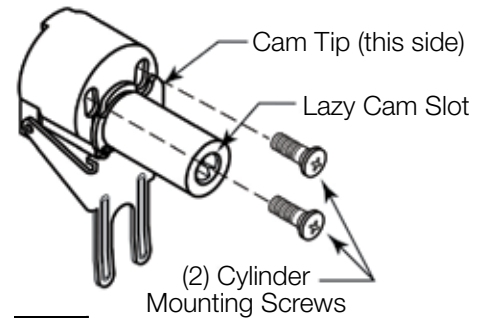
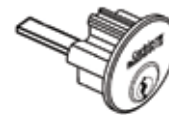

Figure 2
Figure 3
1. Follow 955 Series trim installation instructions. Substitute cylinder housing assembly with Double Cylinder Trim Housing Assembly supplied with device. (Figure 2) Continue with trim mounting instructions.
2. Follow ED5200 (A) mounting instructions supplied with device. Once complete, continue with Double Cylinder instructions below.
3. Pre-assemble cylinder through cylinder collar, active head cover, and cylinder housing as shown on cover page. Secure cylinder housing to cylinder with two (2) 10-24 x 3/4" cylinder screws. Keyway position should be vertical with plug in lower side of cylinder. (Figure 3)
4. Assemble active head cover to device by inserting cylinder tailpiece into lazy cam slot of Double Cylinder Trim Housing Assembly (Figure 2) (tailpiece length to be adjusted as needed for non-interference with opposing trim cylinder). Install and tighten two (2) 8-32 x 1/4" cover screws to active head cover.